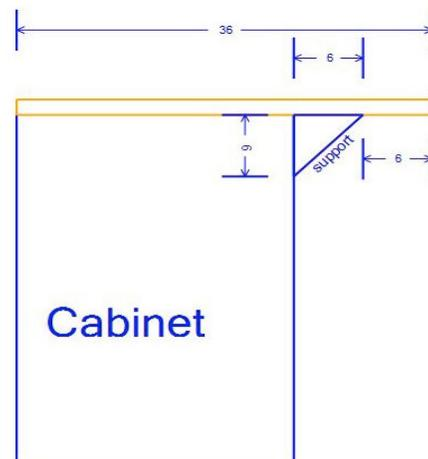
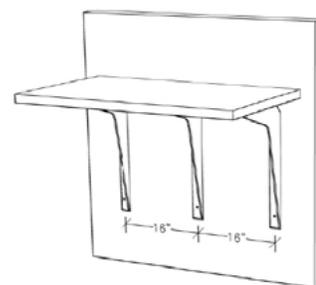

Figure 25A
Figure 25B
- Secure the EOS^{CU} top to the casework with Figure-Eight clips, screwing from underneath the casework up into the substrate of the top. (FIG 25A) **NEVER screw into the EOS^{CU} surface itself.** (These clips are also known as S Clips or Tabletop Fastener. They can be obtained from larger hardware and wood specialty stores.) The use of a forstner bit is key, as this will create the shallow recess as seen below. (FIG 25B & 25C)